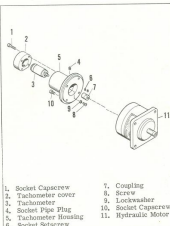

Figure 12. Replacing tachometer on hydraulic motors
15. REPLACING TACHOMETER ON HYDRAULIC MOTORS (figure 12).